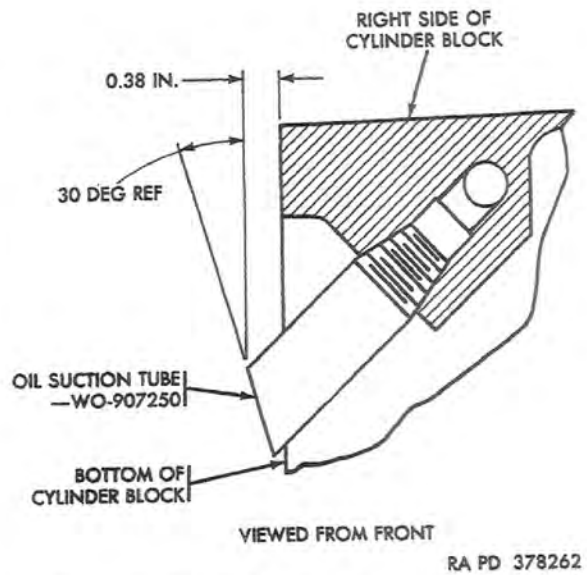

Figure 35. Installed position of oil suction tube—Sectional view.
- tion. Replace a damaged tube. Tube must be installed in correct position (fig. 35). Be sure tube is tight in cylinder block.